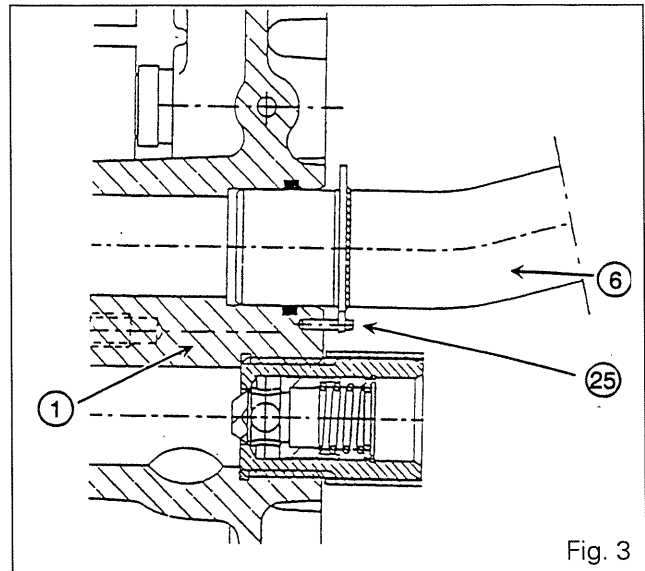

Fig. 3
- Smear the mating face for the cover (1) on the housing with a sealing compound, Loctite 510 or equivalent.
- Place the transfer pipe (6) on the cover, position the dowel (25) in the recess in the flange (Fig. 3), and refit the cover, with the valve (26) in the pipe (27).